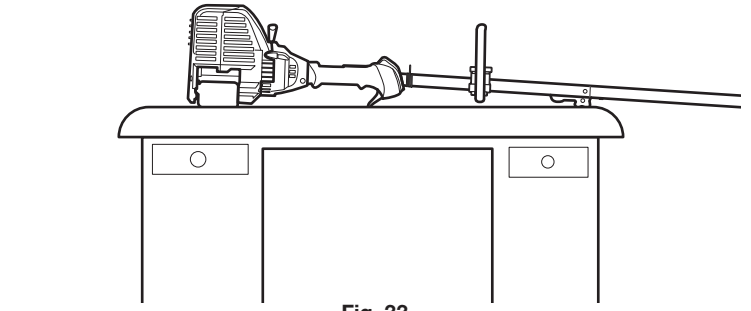

Fig. 33
2. **Set the unit on a flat, level surface**, such as a workbench or table. The cutting head shield should hang over the edge so that the engine is level (Fig. 33).